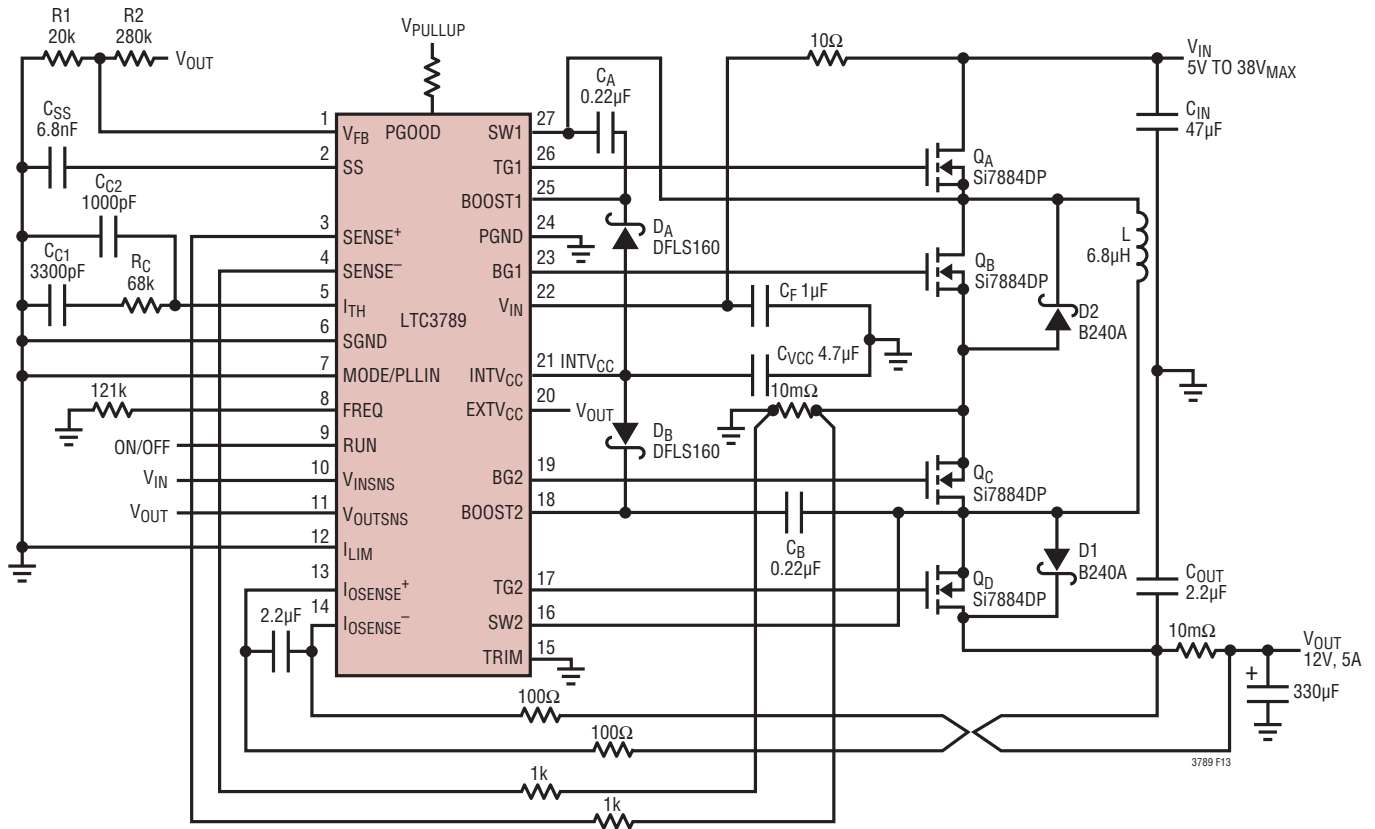

Figure 13. LTC3789 12V/5A, Buck-Boost Regulator
- Flood all unused areas on all layers with copper. Flooding with copper will reduce the temperature rise of power components. Connect the copper areas to any DC net (V_{IN} or GND). When laying out the printed circuit board, the following checklist should be used to ensure proper operation of the LTC3789. These items are also illustrated in Figure 13.